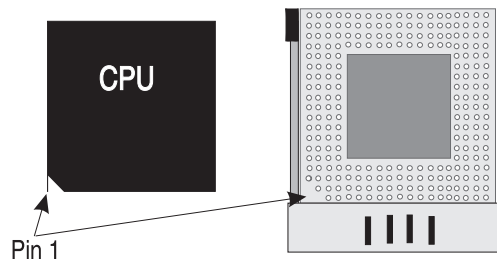

Figure 3-2 Installing a CPU
1. Locate the ZIF socket on the board (Figure 3-2).
3. Insert the new processor into the socket. Make sure pin 1 on the CPU lines up with pin 1 on the socket. Refer to Figure 3-2 for pin 1 location.